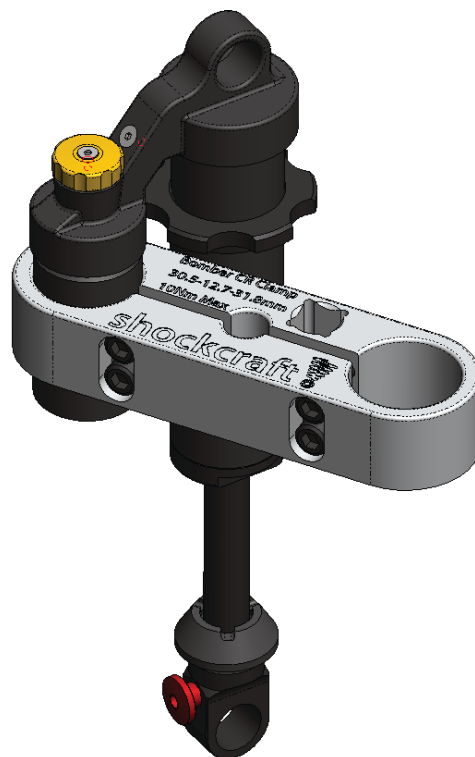

Figure 3. Piggyback fitted in Shockcraft clamp block for removal of piggyback tube.
- Clamp block with 30.5 & 31.8 mm clamps (Shockcraft version is ideal, as shown in Figure 3)
Option 1: Fit the Shockcraft clamp block around the piggyback tube and tighten the bolts to clamp (see Figure 3). Place the clamp in soft-jaws and prepare a large adjustable spanner to twist the shock head. Heat the junction with the heat-gun to soften the factory Loctite and crack it loose (see Heating Tip below). You can only get half a turn and then will need to reposition the clamp several times to remove.